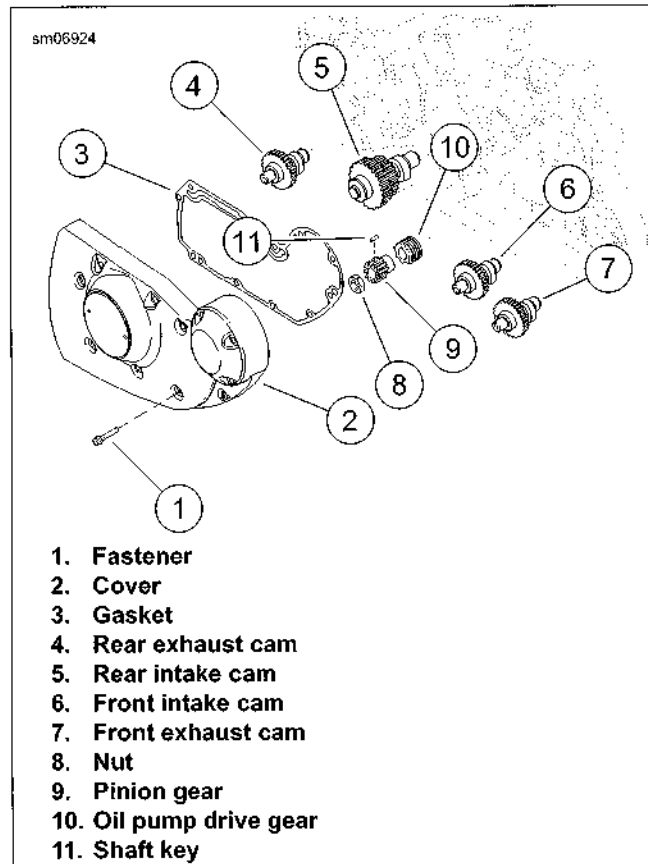
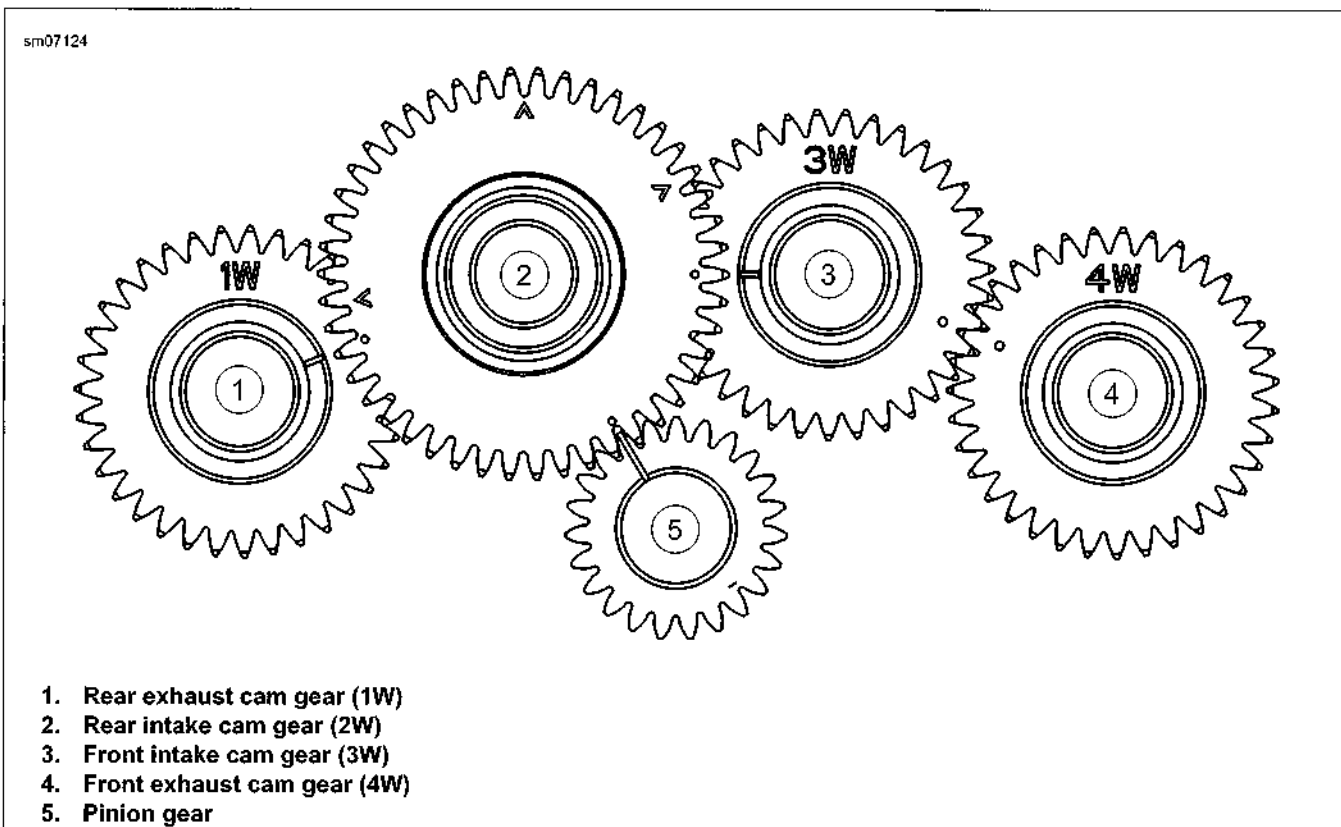

Figure 3-122. Gearcase Cover and Cam Gears
Figure 3-126. Cam, Pinion Gear and Timing Mark Indexing (cam #2 "V" marks are not used for timing)
1. See Figure 3-122. Make sure shaft key (11) is installed on flywheel pinion shaft. Install oil pump drive gear (10) and pinion gear (9) on pinion shaft.
2. See Figure 3-122. Clean threads on pinion shaft and nut (8). Apply several drops of LOCTITE 262 HIGH STRENGTH THREADLOCKER AND SEALANT (red) to threads of nut.
See Figure 3-126. Install rear exhaust and front intake cam gears before rear intake cam gear. This prevents an alignment problem with the pinion gear.
5. See Figure 3-126. Rotate crankshaft until timing mark on pinion gear points exactly at centerline of rear intake cam bushing.
6. See Figure 3-122. Install rear exhaust cam (4). Rotate cam until timing mark (a slot) points exactly at centerline of rear intake cam bushing.
7. Install front intake cam (6). Rotate cam until slotted timing mark points exactly at centerline of rear intake cam bushing.
See Figure 3-126. "V" marks on rear intake cam are not used for timing of Sportster model engines.
8. See Figure 3-122. Install rear intake cam (5). As you install this cam, rotate it so that the three timing marks (dots) line up exactly with timing marks on the pinion gear, rear exhaust cam and front intake cam.
9. Install front exhaust cam (7). Rotate the cam to line up the timing mark with the timing mark of the front intake cam.
10. See Figure 3-126. Verify timing marks. If necessary, remove a cam, rotate it slightly, and install. If timing marks are off even one tooth, engine will not run correctly.
11. See Figure 3-122. Install a new dry gasket (3) on gearcase cover (2).